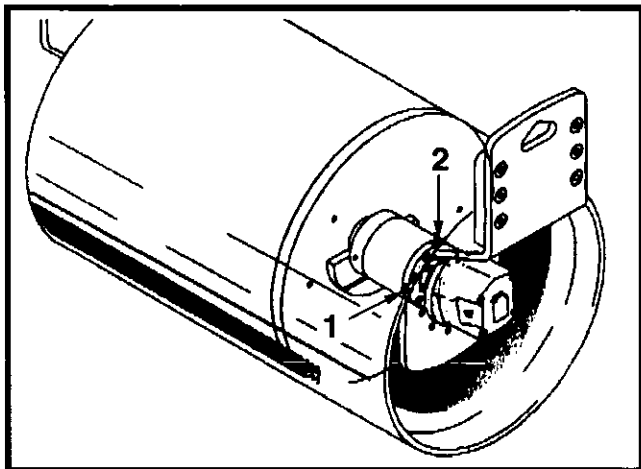

Figure 5-24 Eccentric Oil Fill/Level Plugs
1. Ensure machine is positioned on level ground with the plug (1, Figure 5-24) in 3 or 9 o'clock position, parking brake applied, and drums chocked.
3. Remove the level plug (1, Figure 5-24).
5. Allow oil to stop flowing from the level plug hole (1, Figure 5-24)